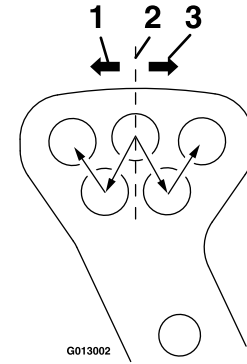
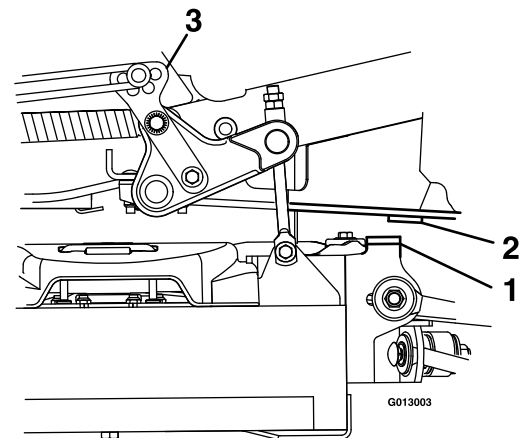

Figure 13
Figure 14
2. If the actuator does not raise the deck high enough to get out of the TRANSPORT-LOCK position, move the rear clevis pin back a hole as shown in Figure 13.
3. If the actuator raises the deck too far and the deck hits the frame (Figure 14) prior to the actuator being fully retracted, a noticeable loud banging sound occurs as the clutch slips erratically. If this happens, move the rear clevis pin forward a hole; refer to Figure 13.